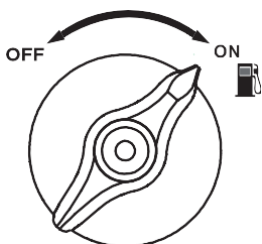

Figure 7: Turn Fuel Switch to ON Position
19. Turn the Fuel Control Switch to the **ON(RUN)** position (see Figure 7).